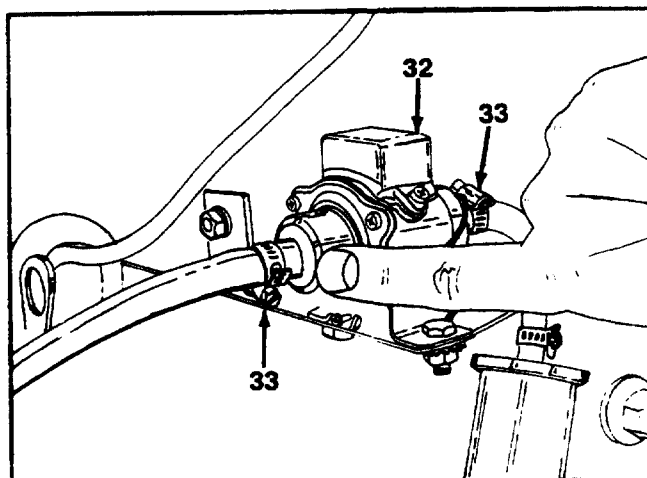

FIGURE 18.
21. Loosen hose clamps and remove inlet and outlet fuel hose from the fuel pump. Disconnect and remove fuel hose from the primary fuel filter. Cap all hoses and inlet and outlet openings. See figures 18 and 19.